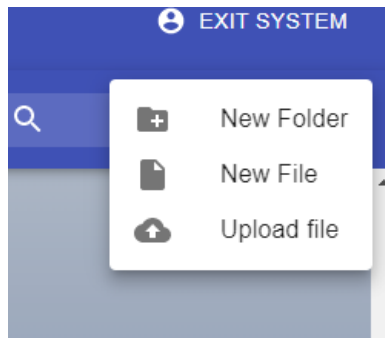

Figure 11-6 : button related operations
1. Click the upper right button menu to create a new folder, upload a file, and create a new file, as shown in **Figure 11-6**.